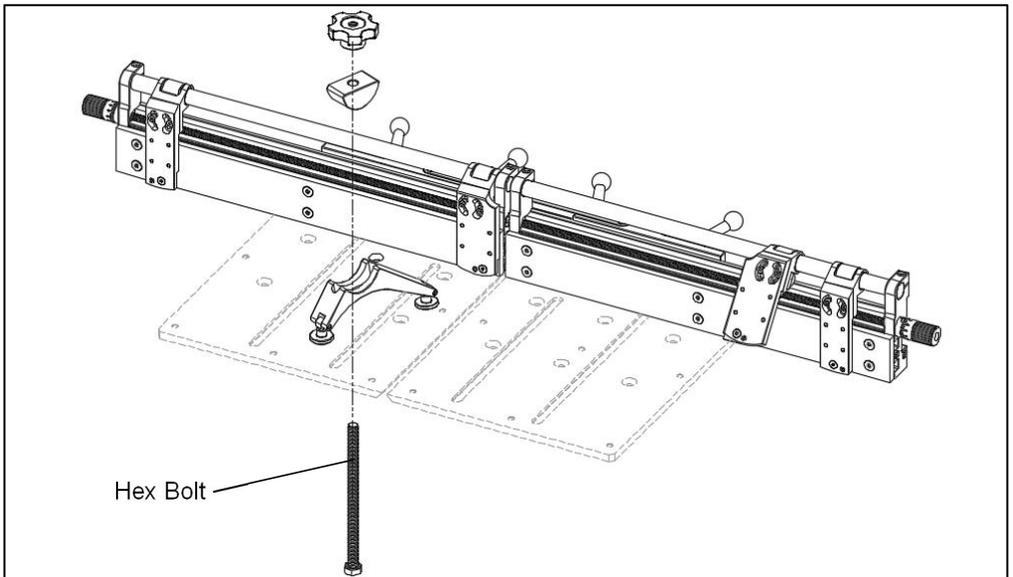

Fig. 15
- Install the Pivot Clamp as shown in Fig. 15. Note that the bolt head should be seated into the table recessed grooves (underneath). From there, install the clamp, the pivot block and tighten the knob to lock the clamp down. Ensure that the bolt is not protruding underneath the table as this could cause obstruction when making your cut.